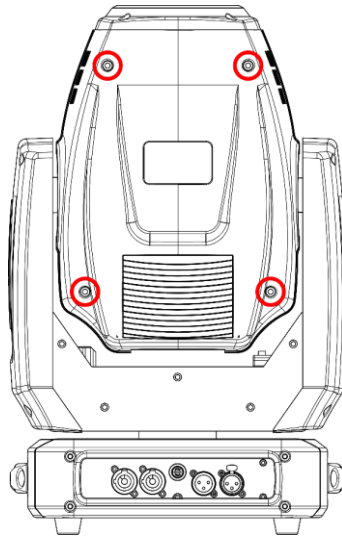

Fig. 12
- 03) Remove the lamp cover by unscrewing the 4 screws (see fig. 12).